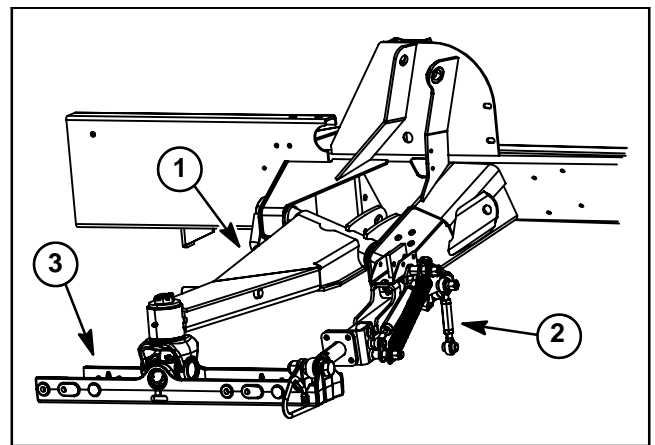

Figure 7
5. Raise lift arm enough to separate deck mount from cutting deck (Fig. 7).